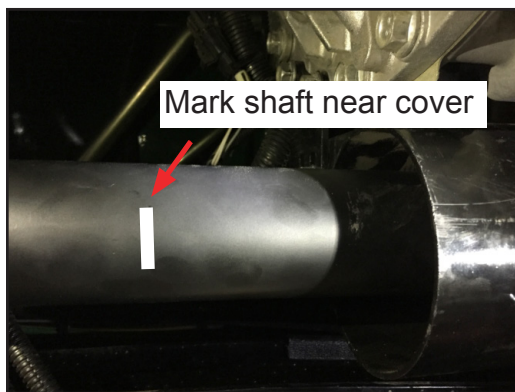

Figure 14
13. Use a machinist's marker to mark a location on the shaft near the cover (location not critical) (Figure 14).